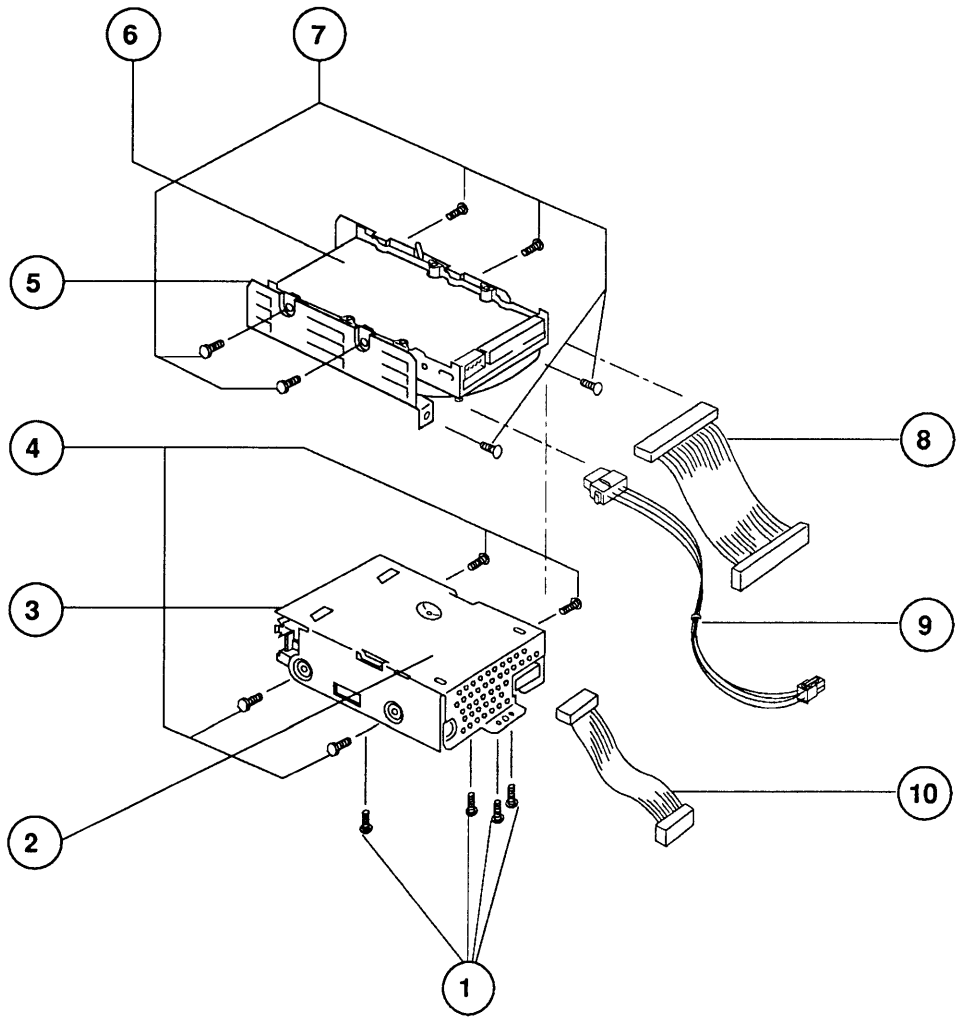

Figure 4 Internal Drives
- IPL.7 Internal Drives (Figure 4)
□ INTERNAL DRIVES (Figure 4)